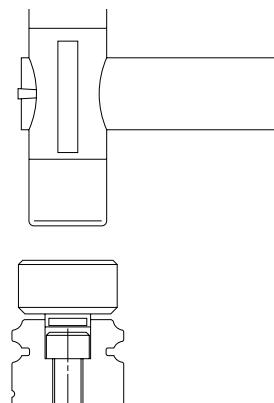

Fig. 4
- To insert a cap into the rail bolt hole, use a flat tool (Fig. 4). Pound the cap gradually until its top becomes flush with the rail top face.